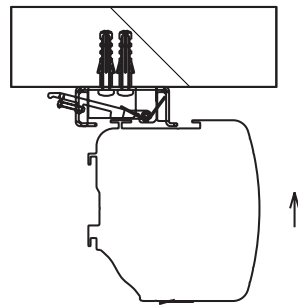

Figure 6
2. Now lift the screen housing with two people and insert it carefully into the mounting bracket. Make sure that the housing engages in the hooks of the mounting brackets. Now push the housing slowly until the screen clicks into place with a click. (see Fig.6)